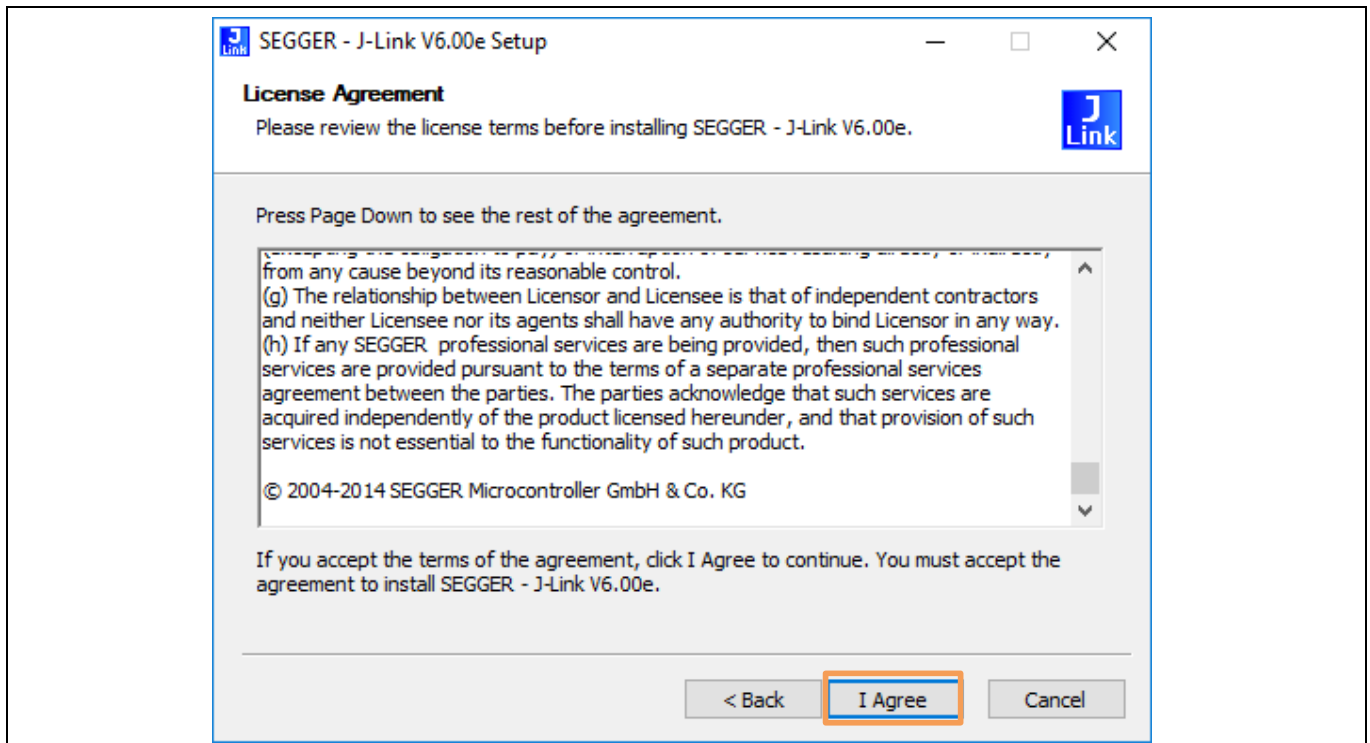

Figure 25 SEGGER JLINK Drivers – License Agreement
- Read through the license agreement carefully and continue the installation by accepting it (see orange color box of Figure 25). If the license agreement is not accepted, then the installation will be aborted. Click **“Next”** button to continue with the installation.